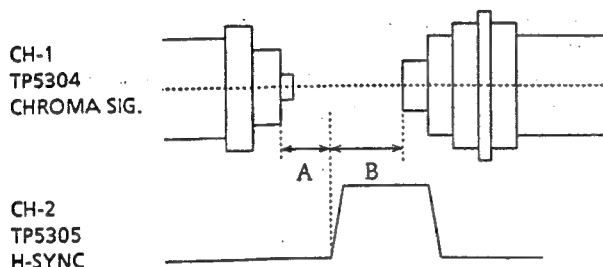

Figure 2-14.
2. Connect a dual-trace oscilloscope with delayed sweep to test points CH-1 ~ TP5304 (Chroma sig.) ~ TP5301 (GND) and CH-2 ~ TP5303 (H-sync sig.) ~ TP5301 (GND) and make sure that the chroma signal out put is just as shown in Fig 2-14.